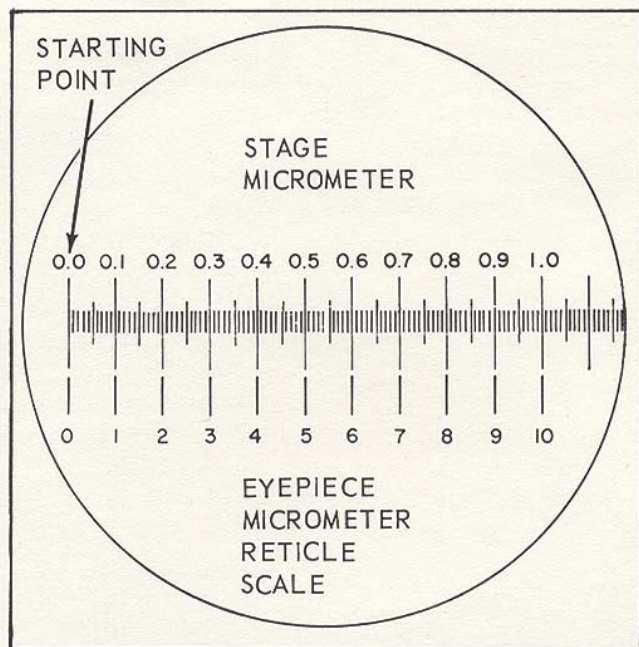

Fig. 3
2. Move the stage micrometer until one of the even graduations corresponds with one of the divisions of the micrometer reticle (figure 3). This is determined by the magnification used. For example: A 10X objective should magnify the stage micrometer so that the one millimeter graduation corresponds to the ten millimeter graduation on the micrometer eyepiece reticle. If they do not correspond exactly, compensation of magnification should be made.